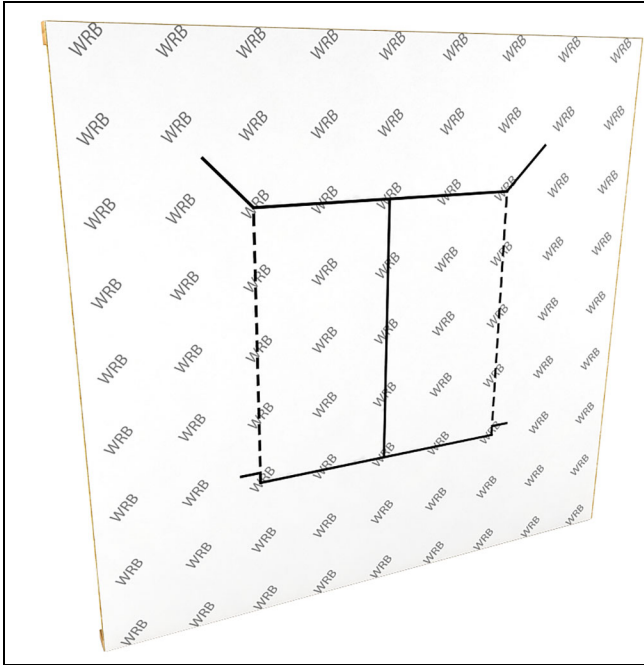

Figure 5
1. Make horizontal cuts to the Weather Resistive Barrier (WRB) across the top and bottom of the Rough Opening. Make a vertical cut down the center of the RO. then make 45 degree cuts away from the corners of the top of the RO. See Figure 5.